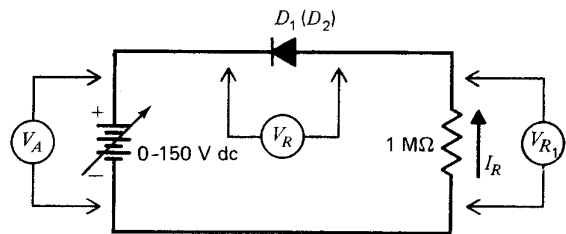

Fig. 51-5. Reverse-bias condition.
10. Connect the circuit shown in Fig. 51-5.